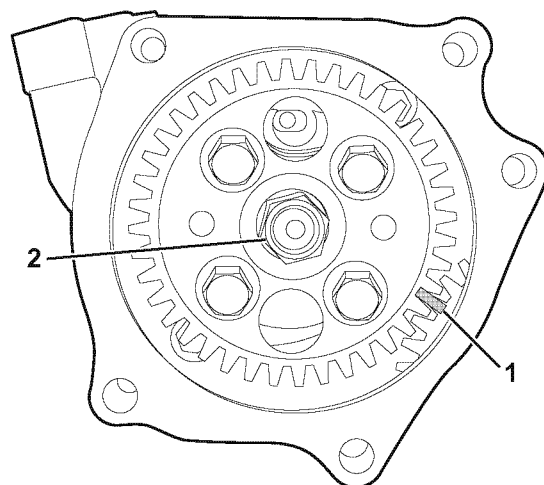

Figure 7-9
13. To aid in assembly, make alignment marks (**Figure 7-9, (1)**) on the pump drive gear and idler gear.
14. Hold the gear train stationary using a wrench on the crankshaft pulley bolt. Remove the fuel injection pump drive gear retaining nut and washer (**Figure 7-9, (2)**).